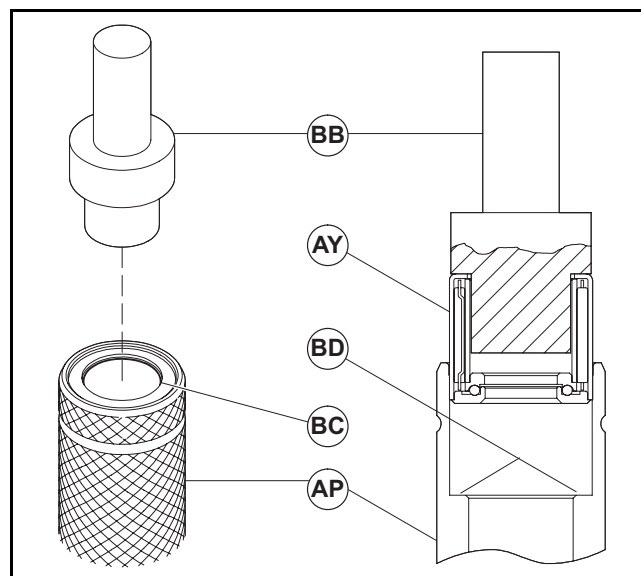

Figure 23
Use the following procedure to install pulley bearings (Figure 23, item AY).
2. Install bearing insertion tool (Figure 23, item BB), part number §25-10 in an arbor press.
3. Align bearing insertion tool (BB) with pulley bore (BC).
4. Slide bearing (AY) onto bearing insertion tool.